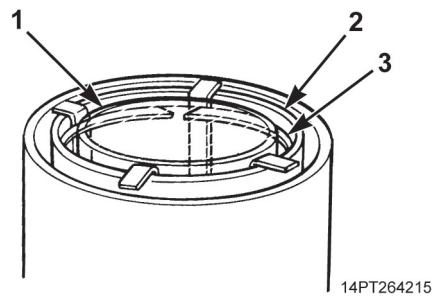

Figure 11. Sleeve Removal.
16. Using two small screwdrivers, remove bottom retaining ring (Figure 11, Item 3) from groove of sleeve (Figure 11, Item 2). Position four hydraulic cylinder disassembly tools, equally spaced, between bottom retaining ring and sleeve.
17. Remove sleeve (Figure 11, Item 1) from sleeve (Figure 11, Item 2). Remove bottom retaining ring (Figure 11, Item 3) from sleeve.